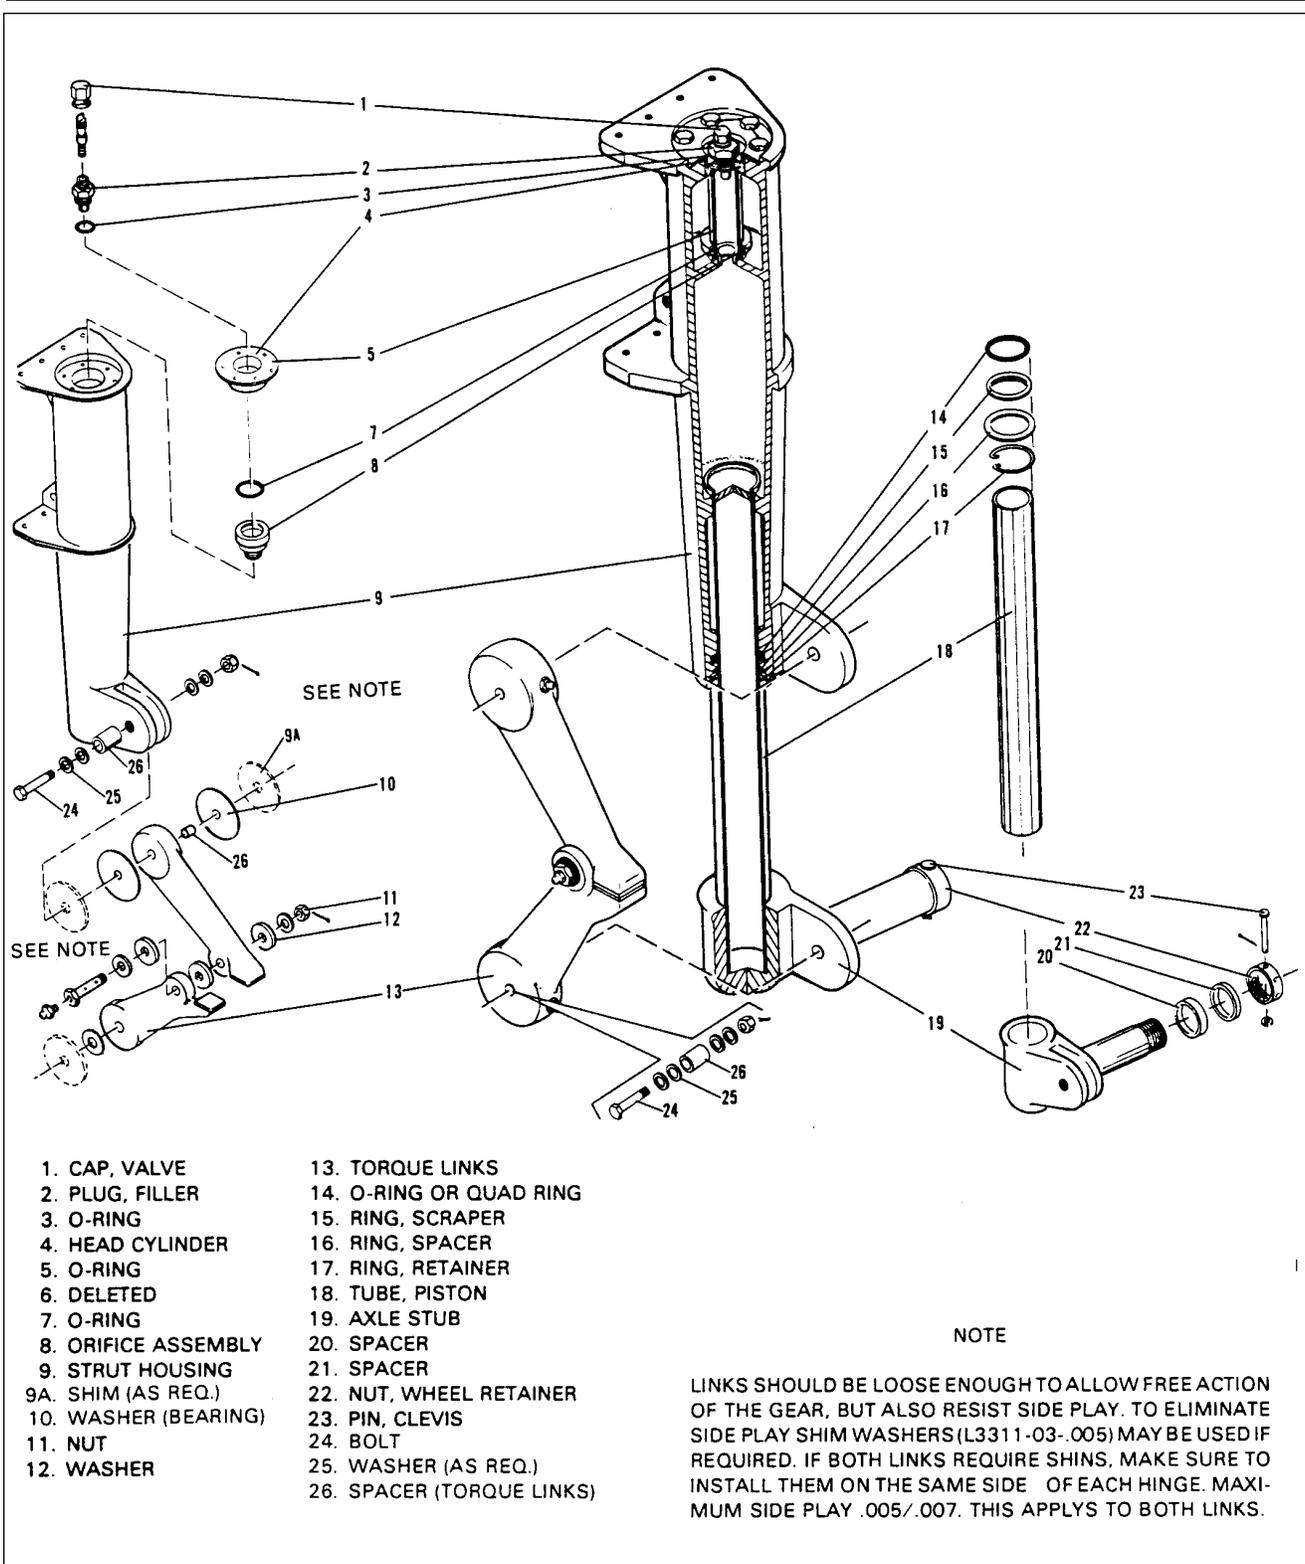

Figure 32-1. Main Gear Oleo Strut Assembly
#### **DISASSEMBLY OF MAIN GEAR OLEO (figure 32-1)**
**ASSEMBLY OF MAIN GEAR OLEO** (figure 32-1)